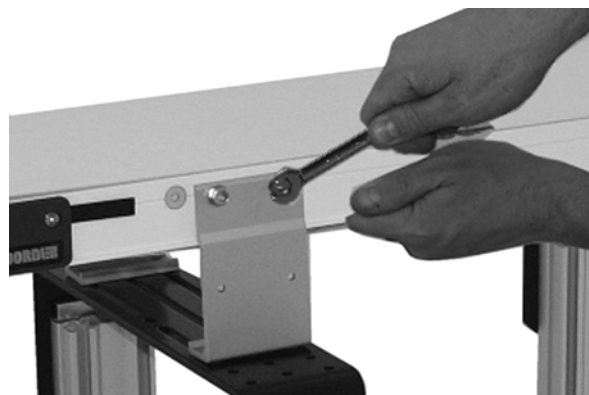

Figure 19
3. Hand tighten the screws to secure (**Figure 19**). Recommended torque is 150 in.lbs (17 Nm).